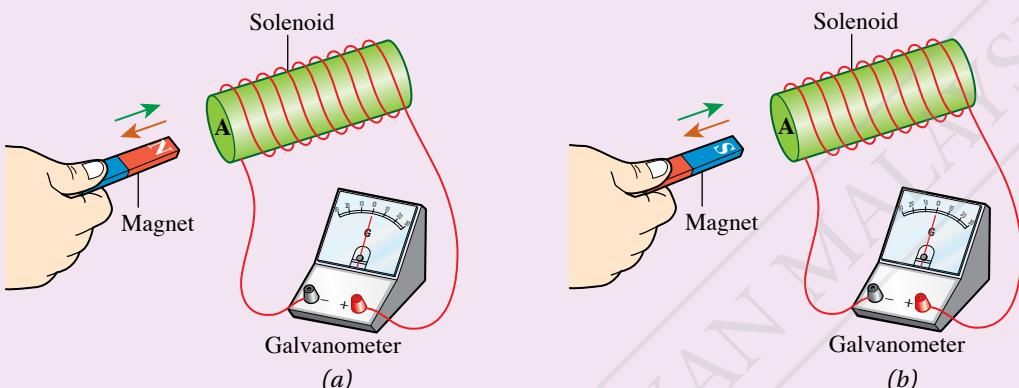

Figure 4.27
- Set up the apparatus as shown in Figure 4.27.
- Move the north pole of the bar magnet as shown in Figure 4.27(a):
- Move the south pole of the bar magnet as shown in Figure 4.27(b):